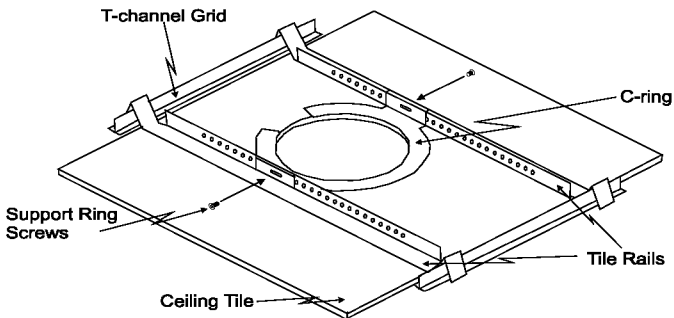

Figure 7: Installing the Closed-back Ceiling Speakers
1. Place the C-ring over the hole cut in the ceiling tile (on the “ceiling” side). Place it around the hole so that the tabs are located in parallel to the tile edges (see Figure 7).